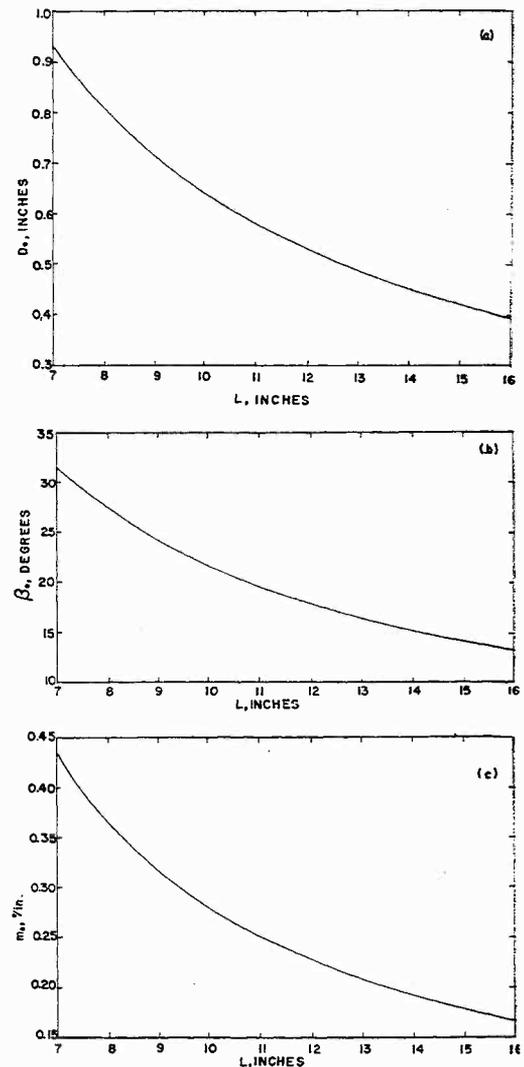

Fig. 4 Optimum design parameters for LP's as a function of arm length. a) optimum overhang D_0 ; b) optimum offset angle β_0 ; c) minimum distortion index m_0 .
Eqns. (25) are illustrated in Fig. 4, where the optimum offset and overhang for LP's and the corresponding minimum distortion index are plotted as a